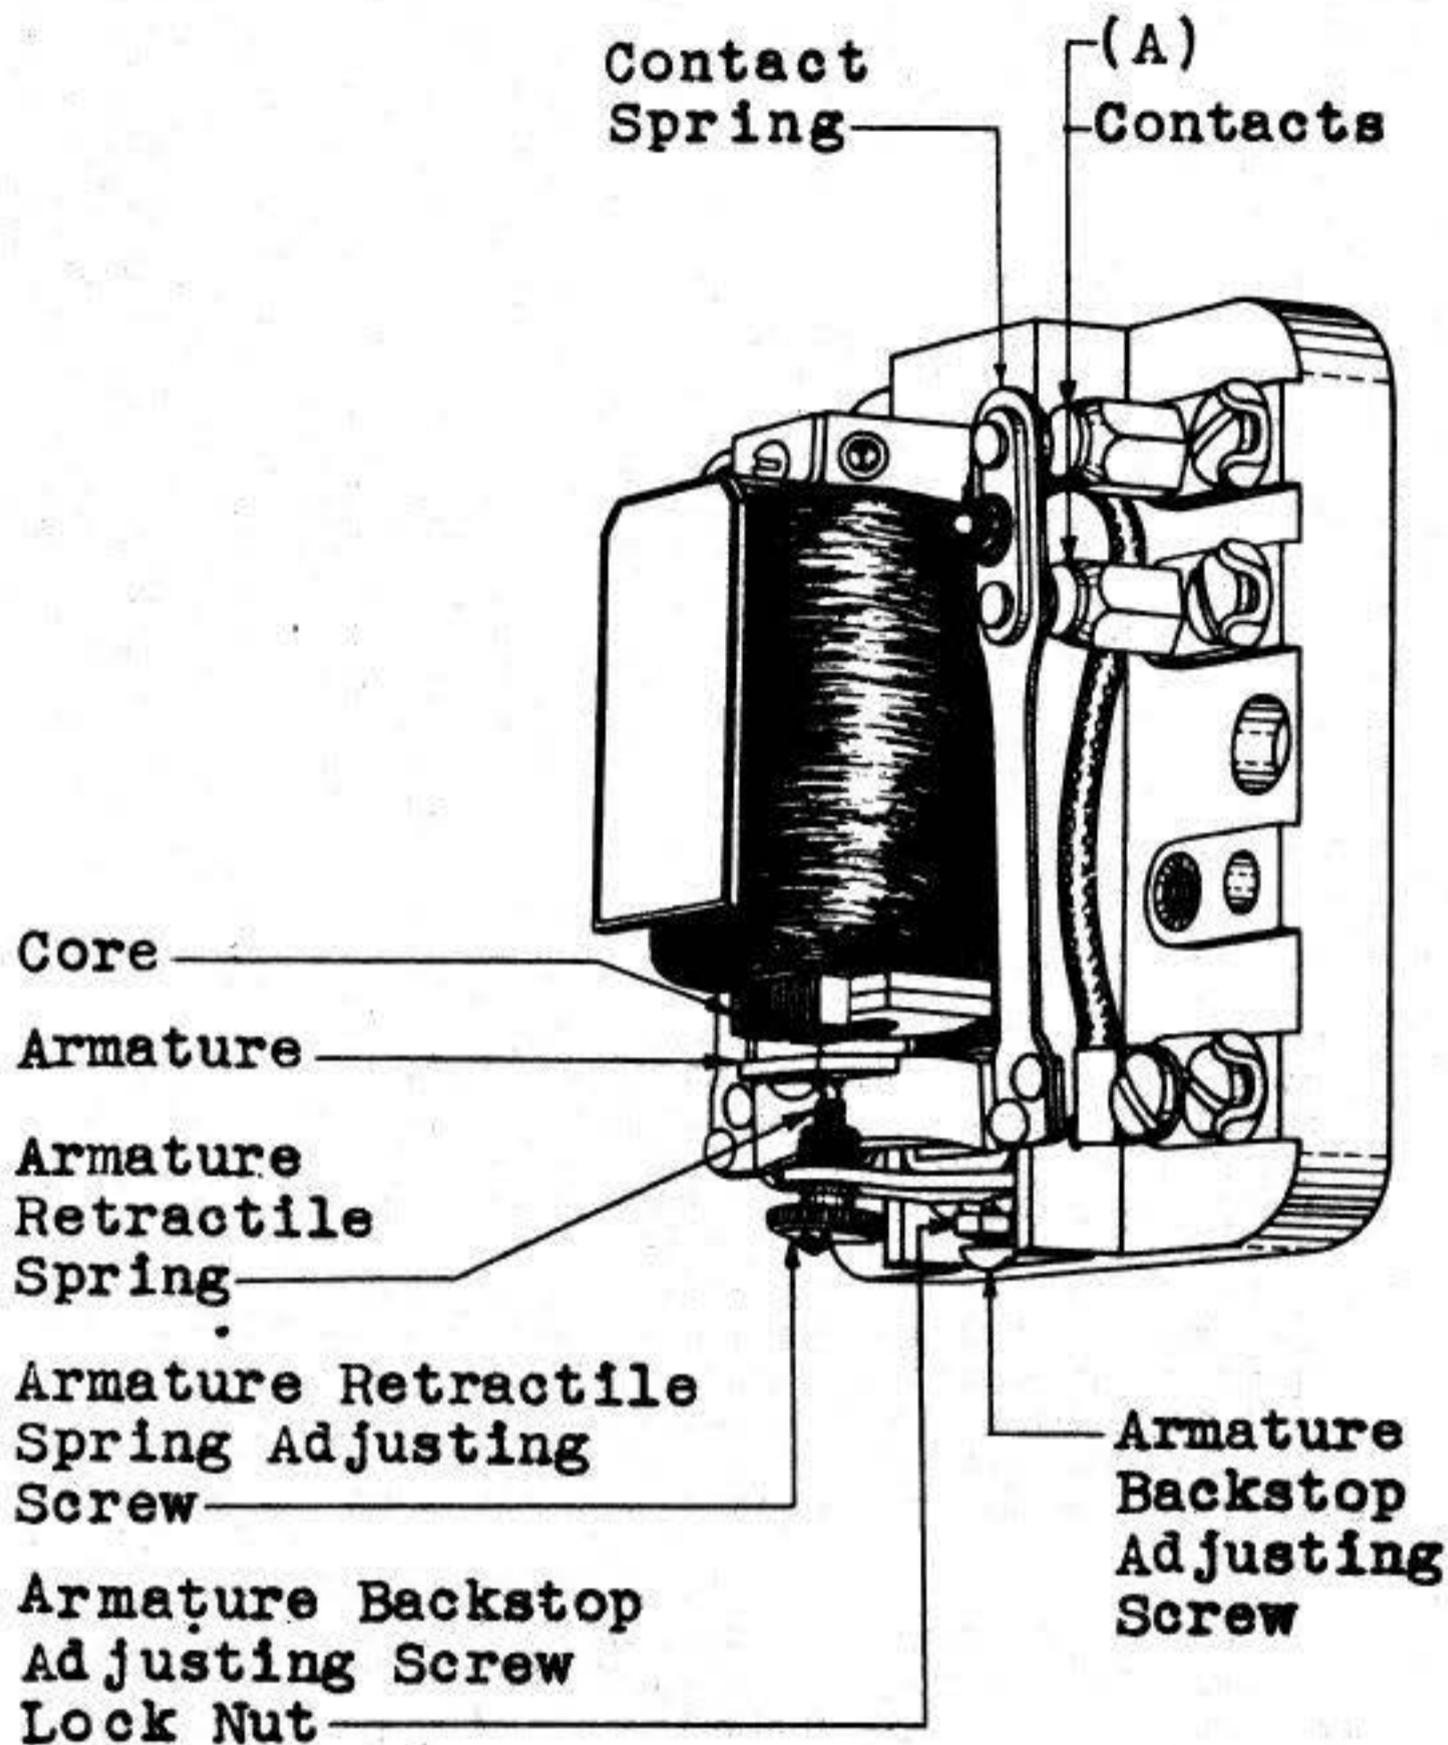

Fig. 2 - KS-5483 Relay Having Front Contacts Only
(1) The auxiliary (carbon to copper) contacts shall make before and break after the main (silver to silver) contacts make and break. Gauge by eye.
(2) The auxiliary (carbon to copper) contacts on each side of the armature shall make and break at approximately the same time and the main (silver to silver) contacts on each side of the armature shall make and break at approximately the same time. Gauge by eye.
(b) KS-5483 Relay and KS-5381 Relay Set, List No. 5 - Fig. 2 (A) - The contacts on the same side of the armature shall make and break at approximately the same time. Gauge by eye.
(14) On relays equipped with armature back stop adjusting screws as shown in Fig. 2, loosen the armature back stop adjusting screw lock nut with the No. 220 wrench and while holding the lock nut in position turn the adjusting screw in or out as required with the KS-6854 screw-driver to decrease or increase respectively the movement of the armature. After a satisfactory adjustment is obtained, tighten the lock nut securely.
(15) If the armature moves toward the core as the electrical operate current is applied, but fails to pull all the way up to the core, it is an indication of excessive contact pressure or excessive armature retractile spring tension. Reduce the contact pressure or spring tension as outlined in (4) to (8) inclusive, exercising care not to change the contact sequence. If the armature retractile spring tension is excessive, reduce the tension by turning the adjusting screw in a clockwise direction.
(16) If the relay fails to meet its non-operate requirement, increase the armature air-gap as covered in (12) or (13), or if the relay is equipped with an armature retractile spring, increase the tension by turning the adjusting screw in a counterclockwise direction. If a readjustment of the contact pressure is necessary, proceed as covered in (4) to (8) inclusive.
(17) After adjustments are completed remount the relay if it had been removed, reconnect the leads and recheck the electrical requirements.